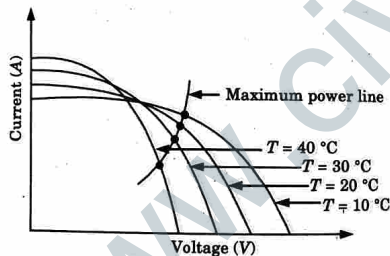

Fig. 3.20.1. V-I characteristics of a PV device.
A. V-I Characteristic of Photovoltaic (PV) Device :
1. The V-I characteristic of a PV device is a non-linear graph between current and voltage generated by PV module as shown in Fig. 3.20.1.